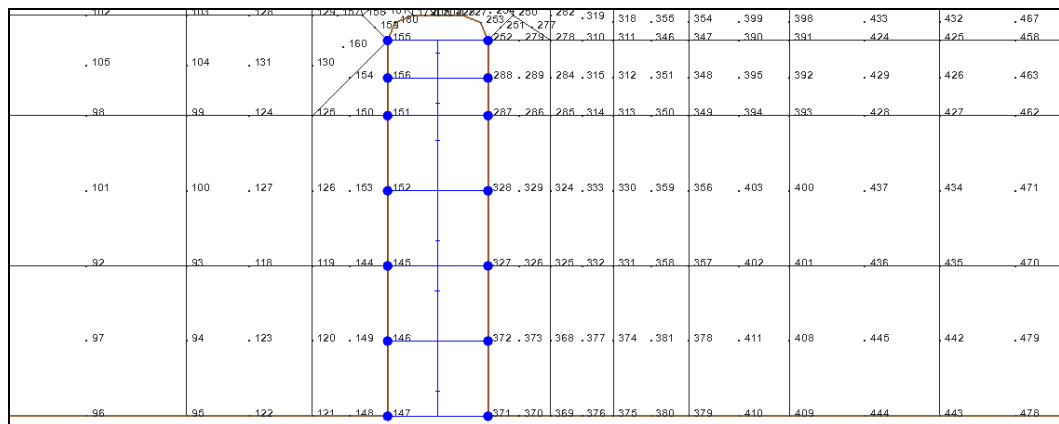

Figure 5 Area with weirs
For this model, a weir will be defined along seven node pairs across the abutment at the bottom middle of the mesh, as shown in Figure 5. This image highlights the nodes across which weir segments will be created.
1. **Zoom**  in to the area shown in Figure 5.
A set of five consecutive weir segments spanning the two bottom elements has just been defined (Figure 5). Together, these segments define a 300-foot-long broad crested weir with a crest elevation of 825 feet, and discharge coefficient of 0.544. SMS displays tick marks along the centerline of the weir to show the breaks between weir segments.